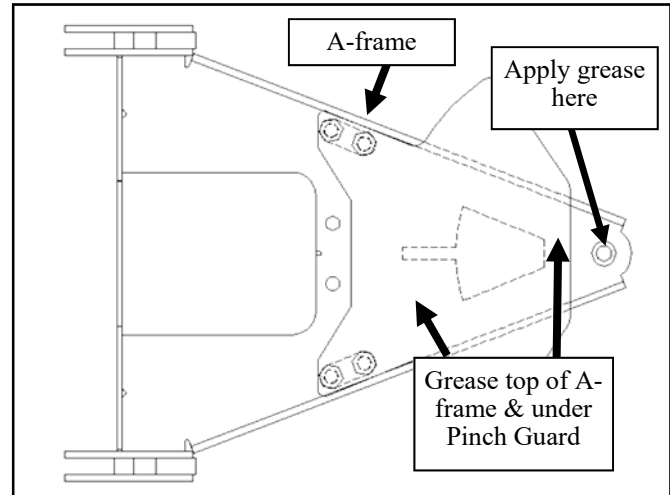

Fig. 3.1—A-Frame and Hardware
- 3.1 Per fig 3.1, locate the A-frame, one 1/2-20 x 3.5" hex head bolt, one 1/2-20 conical locking hex nut, and one 1/2" washer. Apply all-season grease to the top and bottom surface of the A-frame around and in the 1/2" bolt hole. Grease should extend about an inch away from the center of the hole.